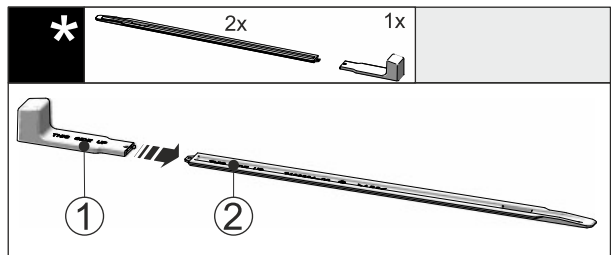

Fig. 45
- ▶ Attach the installation handle Fig. 45 (1) to the levelling rail Fig. 45 (2).